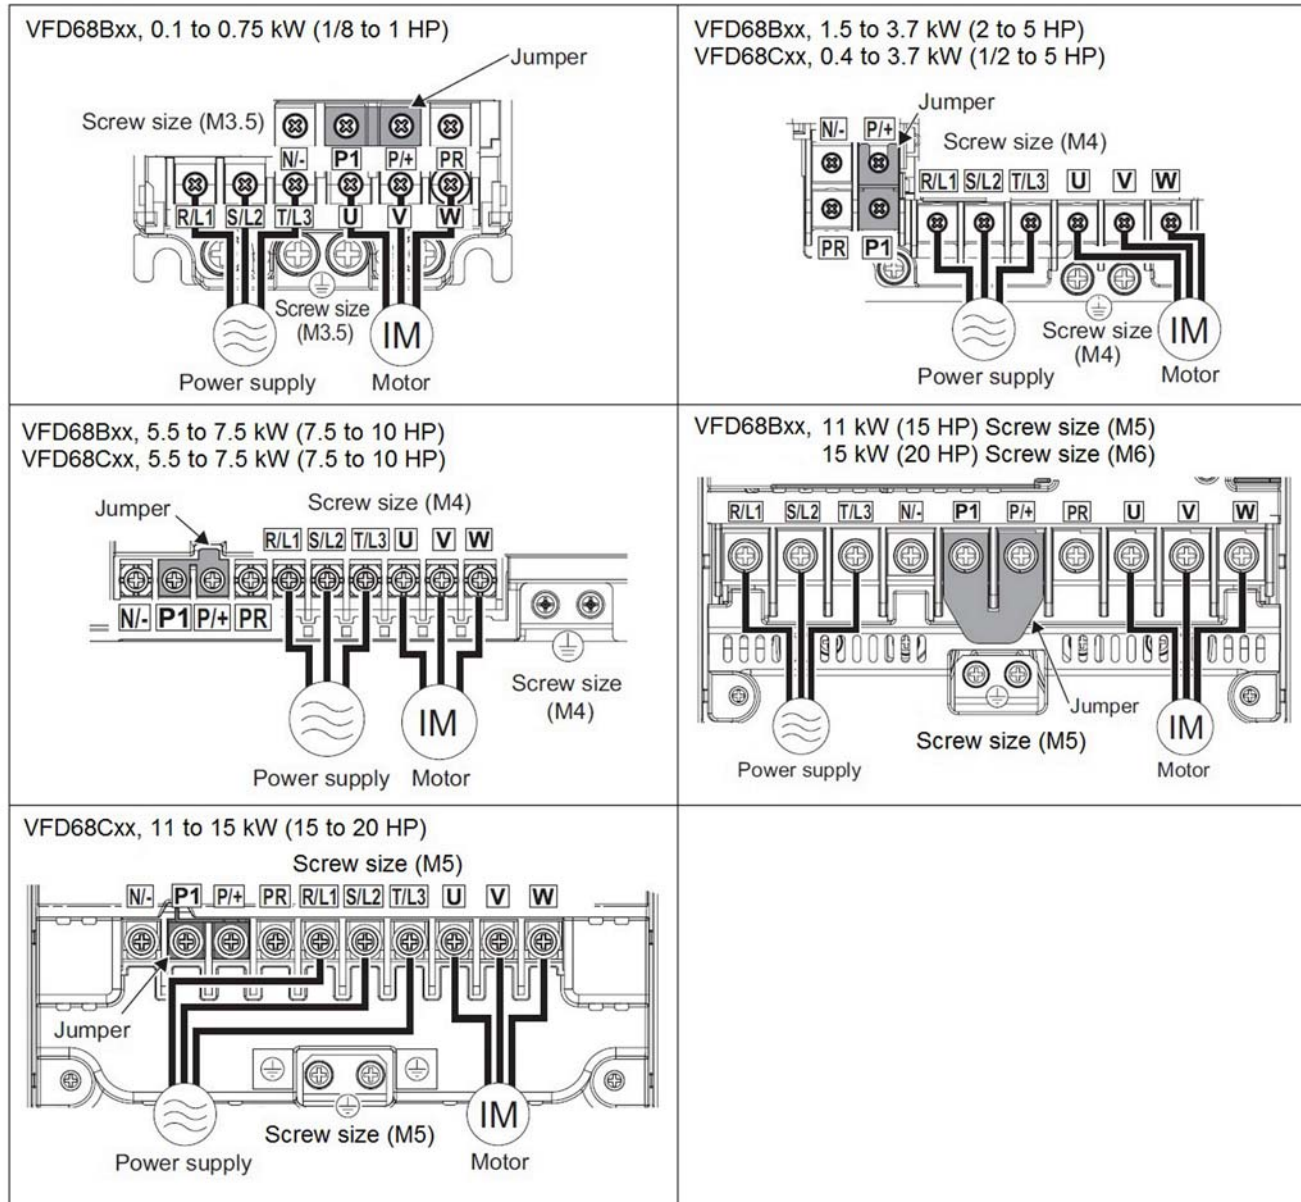

Figure 15: High-Voltage Terminal Block Wiring
- For supplied three-phase power, connect the high-voltage power supply to terminals R/L1, S/L2, and T/L3 on the drive (Figure 15).
For supplied single-phase power, connect the high-voltage power supply to terminals L1 and L3 (Figure 15).
- Connect the motor wiring to high-voltage output terminals U, V, and W on the drive (Figure 15).